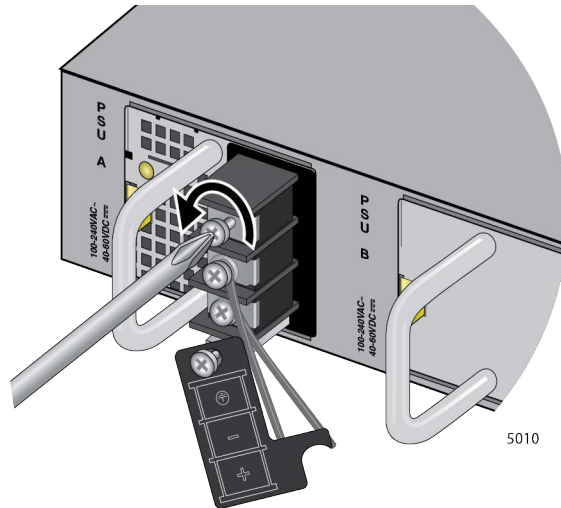

Figure 70. Loosening the Screw for the Negative (+)
- Loosen the top screw for the positive (+) with a Phillips-head screwdriver. Refer to Figure 70.